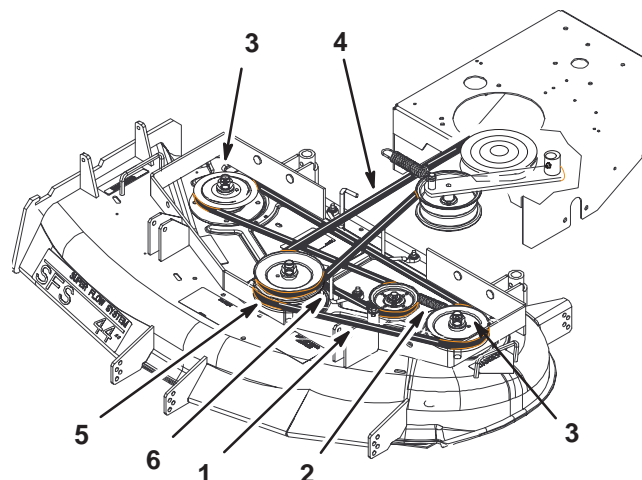

Figure 61
5. Disconnect the idler arm spring to relieve tension on the idler arm and idler pulley, then remove the worn deck belt (Fig. 61).
6. Install the new deck belt around the two outside spindle pulleys, the idler pulley, and in the lower groove of the center spindle pulley (Fig. 61).
7. Connect the idler arm spring (Fig. 61).
9. Adjust deck belt guide an 1/8 in. (3 mm) from belt (Fig. 61).